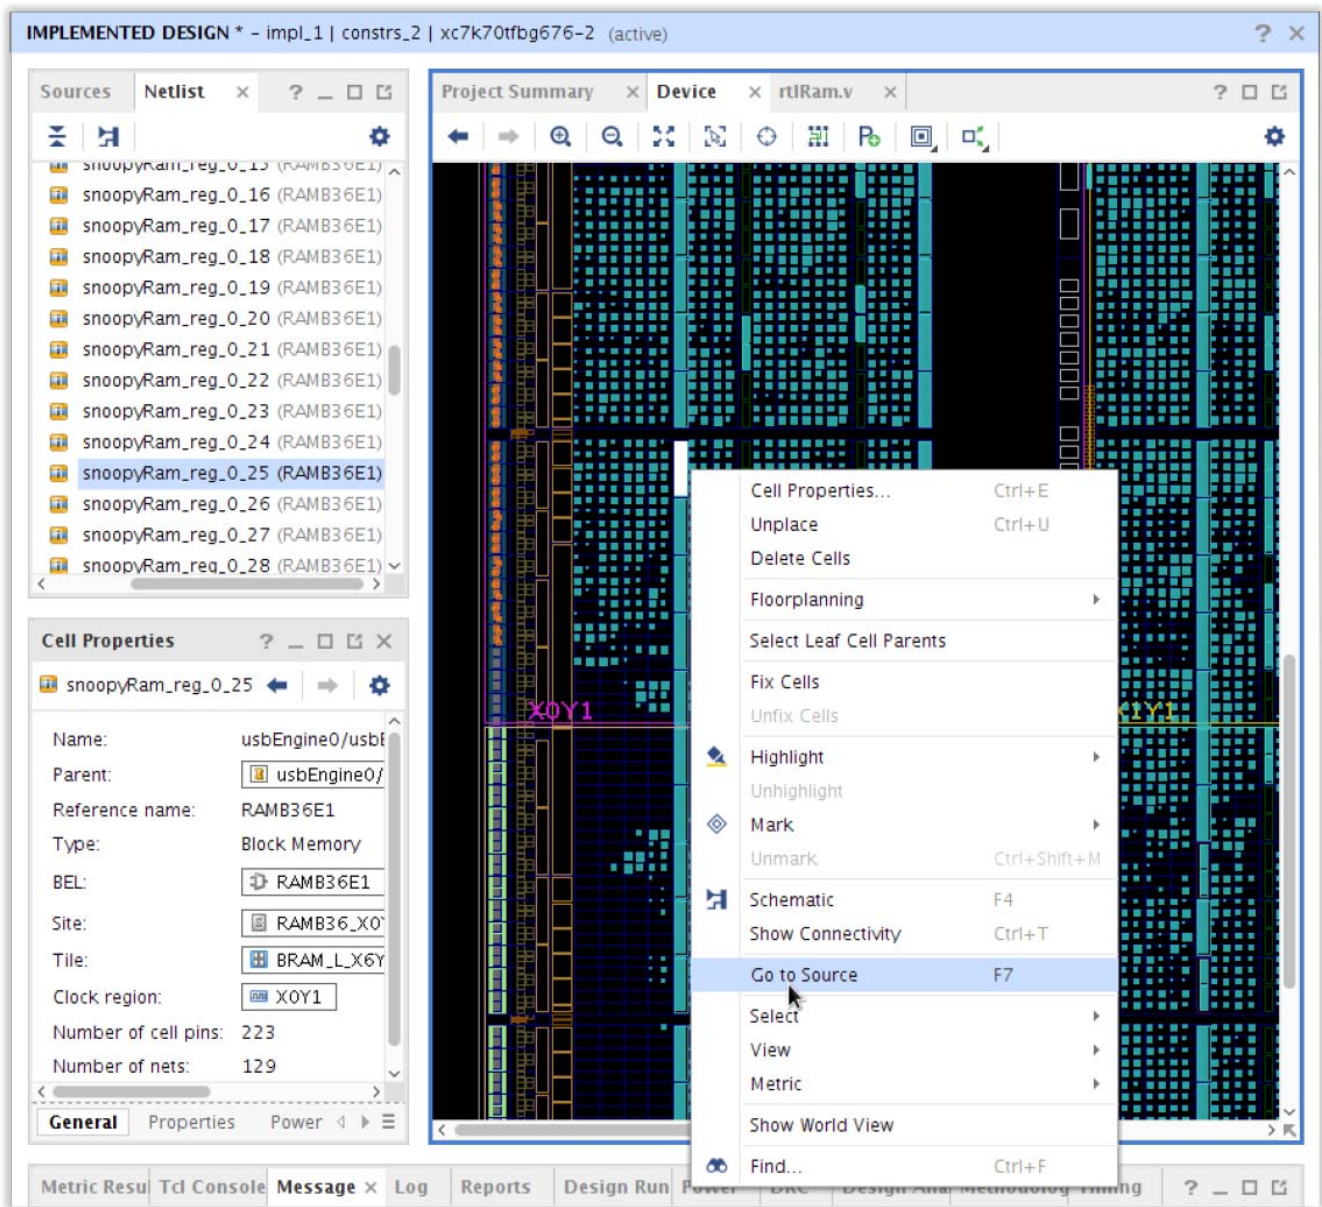

Figure 3-6: Cross Probe Back To Source
2. Select **Go to Source** from the popup menu, shown in the Figure 3-6.